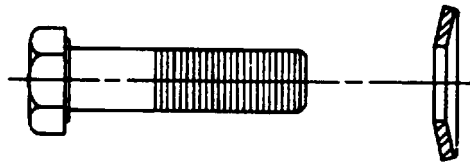
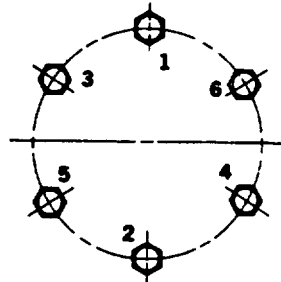

FIGURE 4-19 Belleville Washer Mounting
FIGURE 4-20. Bolt Torque Sequence
- e. Carefully install rotor assembly (23) and attached components into main stator and generator housing (33).
- g. Install fan (29) on drive hub (31) with Belleville washers (28) mounted in direction shown in FIGURE 4-19, and bolts (27). Torque bolts (27) to 60 ft-lbs (81 Nm) in sequence shown in FIGURE 4-20.
- h. Install drive discs (26, FIGURE 4-17) on drive hub (31) with washers (25) and bolts (24). Torque bolts (24) to 28 ft-lbs (38 Nm), refer to FIGURE 4-20 for bolt torque sequence.